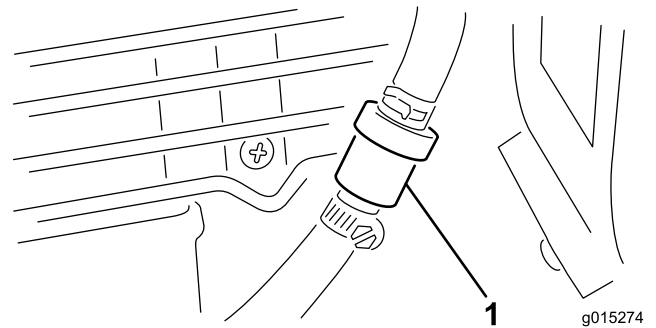

Figure 22
2. Place a clean container under the fuel filter (Figure 22).